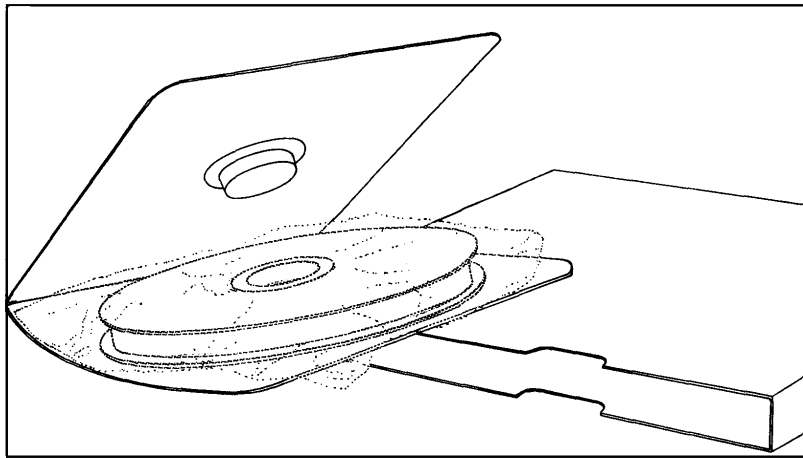

Figure 2-9.—Reel box that supports reel by the hub.
- DO always package tape reels so that they're supported by their hub. This prevents any pressure on the reel's flanges that might flex the flanges against the tape pack. Figure 2-9 shows a shipping box that supports the tape reel by the hub.